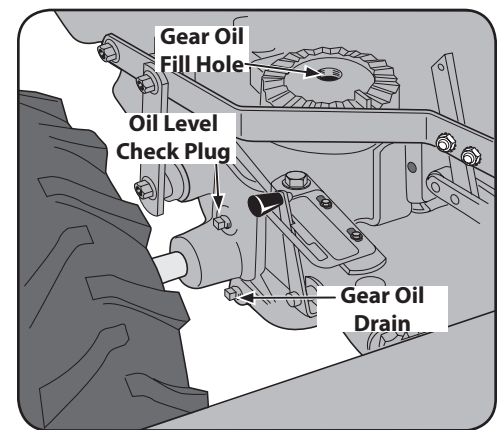

Figure 5-8
- Place a shallow pan under the transmission gear oil drain plug. See Figure 5-8.